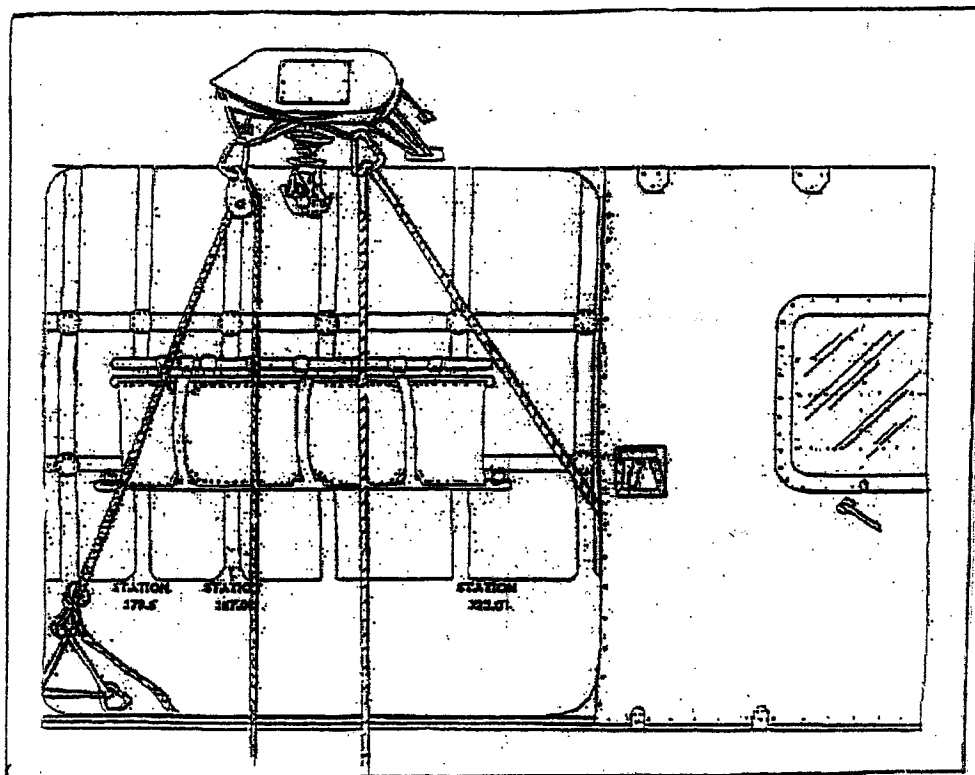

Fig.1
- (1) **Hoist Rig** - Tie two 12' flat ropes with Waterman's knots and route through the chaff pad. Wrap chaff pad around all hoist stanchions against the hoist cowling with outer flap facing aft. Attach a carabiner to each flat rope. (See Fig 1.)